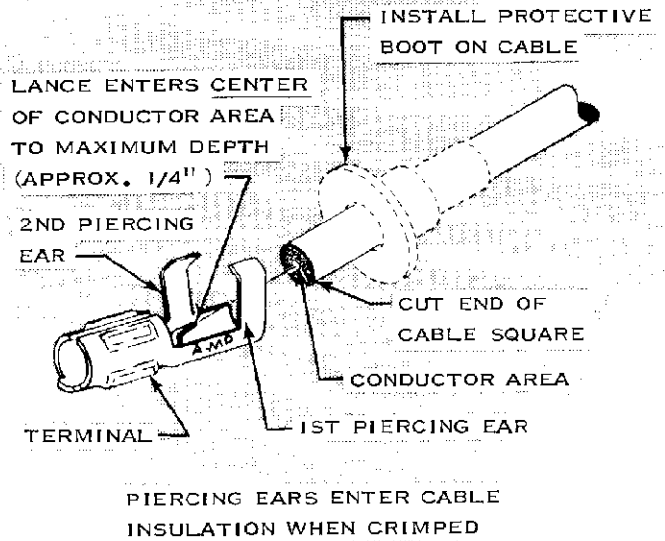

FIG. 2
- (a) Select the Ignition Cable to be used and cut end square. See Figure 2.
- (b) If a Protective Boot is to be used, it should be installed over the Cable as shown in Figure 2.
- (c) Hold Cable firmly on an angle in-line with Lance of Terminal as shown in Figure 2. Insert Ignition Terminal over Cable so Lance enters into CENTER Conductor Area of the Cable.